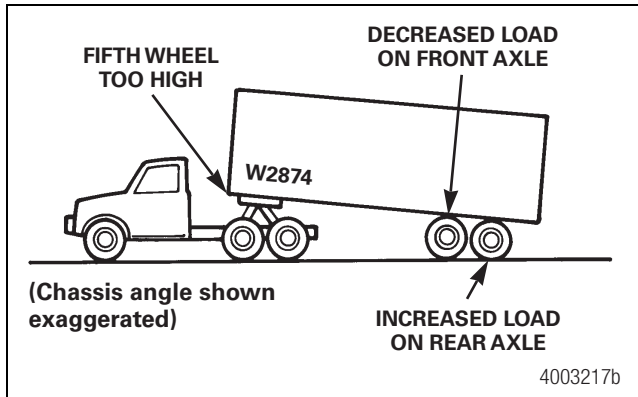

Figure 6.15
- On the suspension shown in Figure 6.15, the fifth wheel is too high, resulting in an overload of the rear axle. If the fifth wheel had been too low, the front axle would have been overloaded.